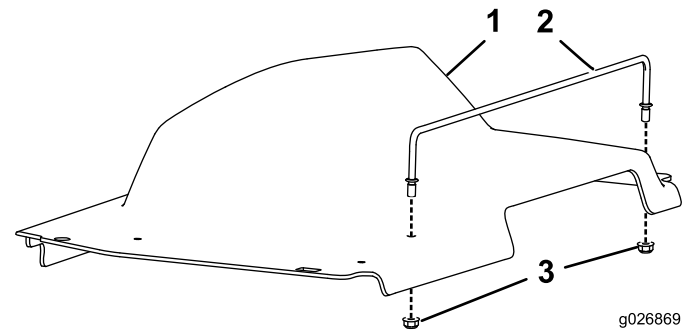

Figure 11
3. Install a shield guide to each cover (Figure 11).